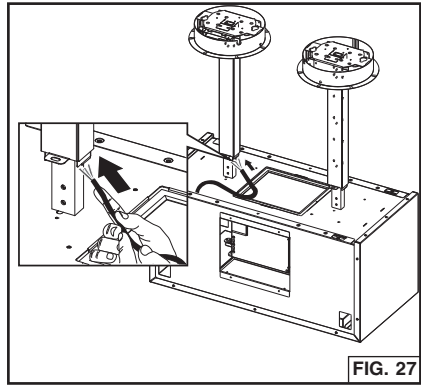

FIG. 27
20. Drop the decorative arm covers and canopy covers. Insert the power wire up through the arm and into the junction box. Fig. 27.